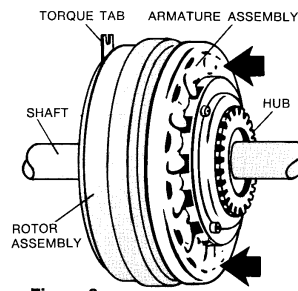

Figure 3.
face of the hub flange (figure 3). Verify that the gap is within proper range and tighten the set screws in the armature hub.
- B.** Single-shaft type: Slide the armature/hub assembly onto the shaft and install the set collar, retaining ring, or pin. Slide the armature/hub assembly against the rotor then back off 0.030"~0.040" to set the gap, keeping the armature face flush with the face of the hub flange (figure 3). Verify that the gap is within proper range, and attach a snap ring or a set collar to lock the hub in place.
6. Connect the lead wires to the power source and energize the field. If the armature is not pulled in by the magnetic force of the field, push the armature towards the rotor until the two faces make contact (figure 3). Upon de-energizing the field, the armature release spring will pull the armature away from the rotor and provide the required gap (0.024" is nominal). This gap will be automatically adjusted by the release spring mechanism as wear takes place in the unit.